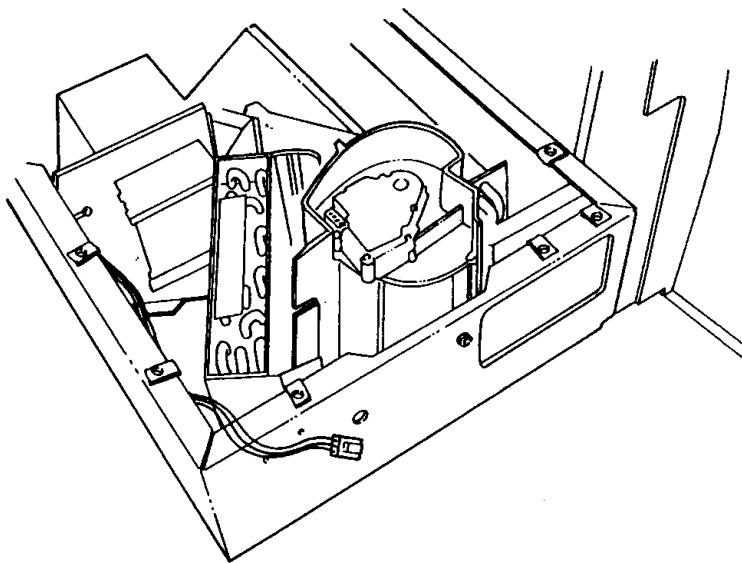

Figure 28 Bunk Blend-Door Assembly
6. Lift the bunk blend-door assembly straight up and out of the Blend-Air unit (Figure 28).
1. Slide bunk blend-door assembly into Blend-Air unit (Figure 28).